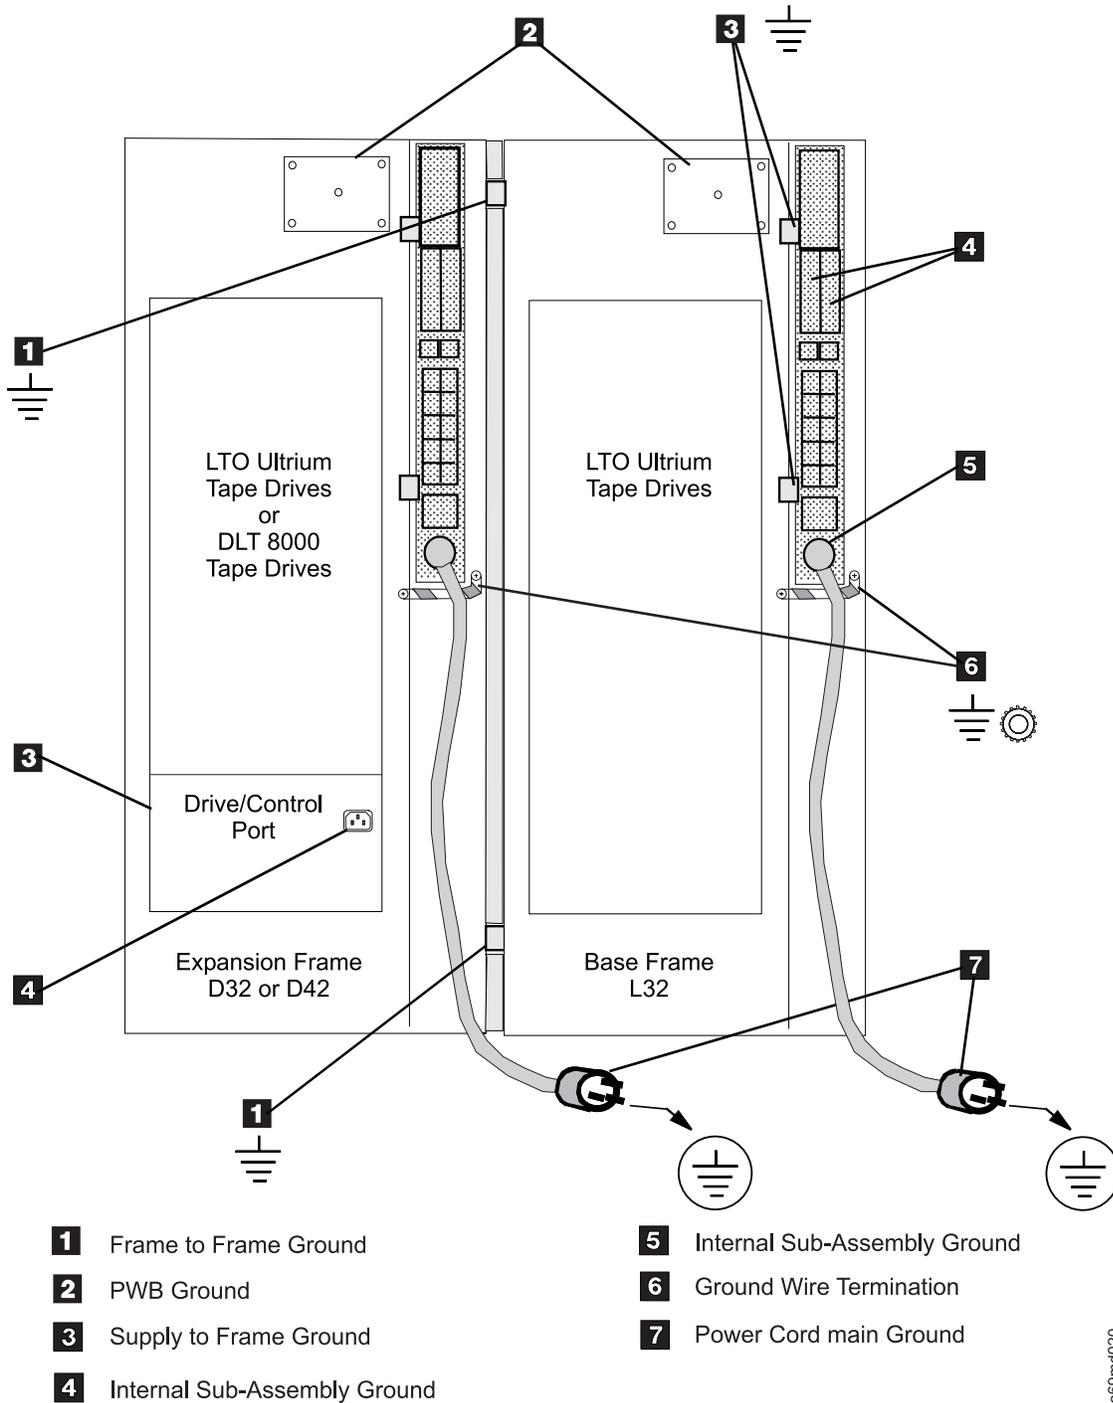

Figure 74. AC Grounding Diagram. (50 Hz and 60 Hz)
Refer to Figure 74 on page 167 as you perform the following safety checks.
- 4. The two screws with lock washers holding the yellow/green ground strap item **6** are tight. See Figure 74 on page 167.